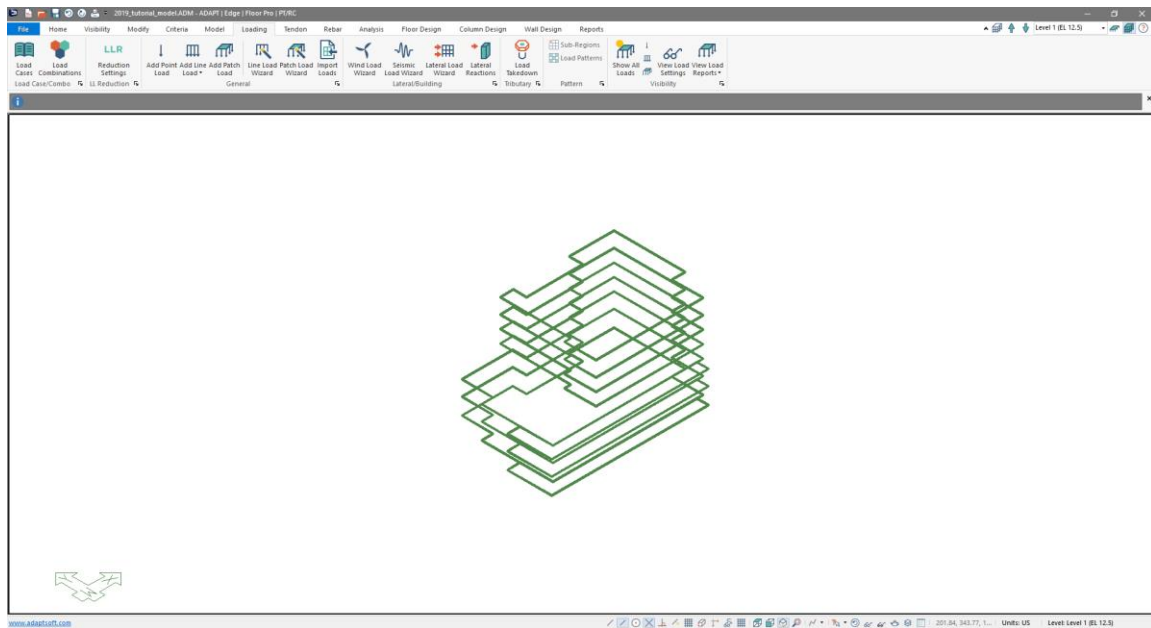

Figure 7-12
- Click on the *OK* button to close the *Select/Set View Items* window. The user should now see only the slabs in the main graphical user interface as shown in **FIGURE 7-12**.